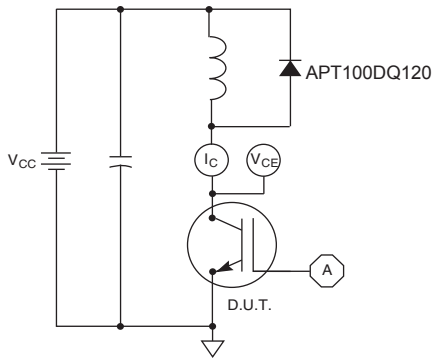

Figure 21, Inductive Switching Test Circuit
- ① Repetitive Rating: Pulse width limited by maximum junction temperature.
- ② For Combi devices, I_{ces} includes both IGBT and FRED leakages
- ③ See MIL-STD-750 Method 3471.
- ④ E_{on1} is the clamped inductive turn-on energy of the IGBT only, without the effect of a commutating diode reverse recovery current adding to the IGBT turn-on loss. Tested in inductive switching test circuit shown in figure 21, but with a Silicon Carbide diode.
- ⑤ E_{on2} is the clamped inductive turn-on energy that includes a commutating diode reverse recovery current in the IGBT turn-on switching loss. (See Figures 21, 22.)
- ⑥ E_{off} is the clamped inductive turn-off energy measured in accordance with JEDEC standard JESD24-1. (See Figures 21, 23.)
- ⑦ R_G is external gate resistance not including gate driver impedance.